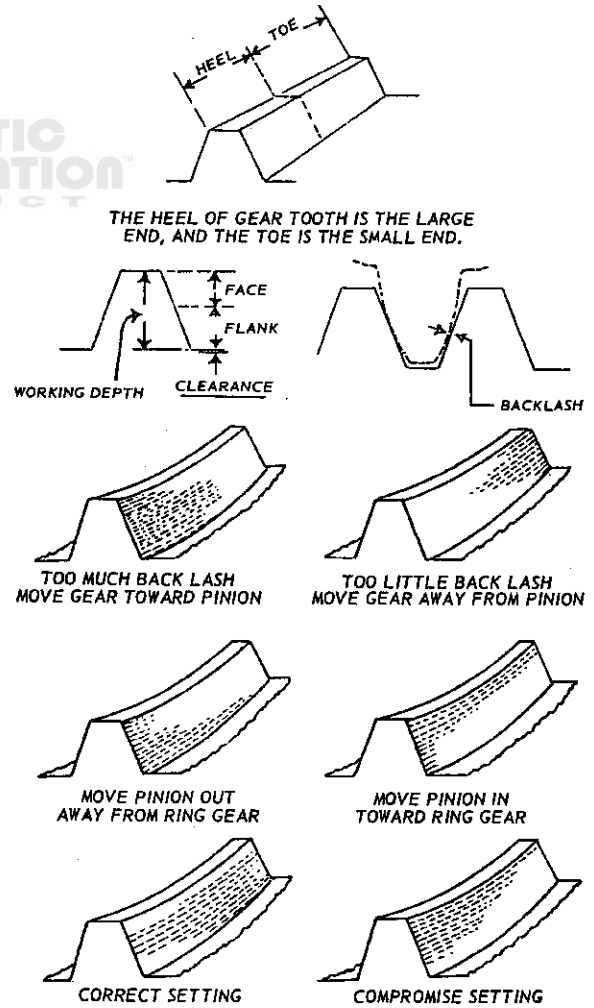

FIG. N-35—GEAR TOOTH CONTACT
n. In order to assist in determining whether the gears are properly adjusted, paint the bevel gear teeth with red lead or prussion blue and turn the bevel gear so the pinion will make an impression on the teeth. The correct procedure to follow in the event of an unsatisfactory tooth contact is shown in Fig. N-35.